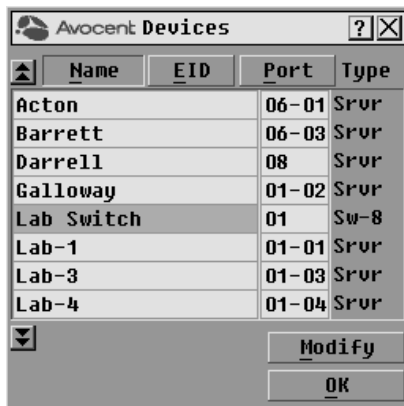

Figure 3.14: OSCAR Interface Devices Dialog Box
2. Click *Setup - Devices* to open the Devices dialog box shown in Figure 3.14.